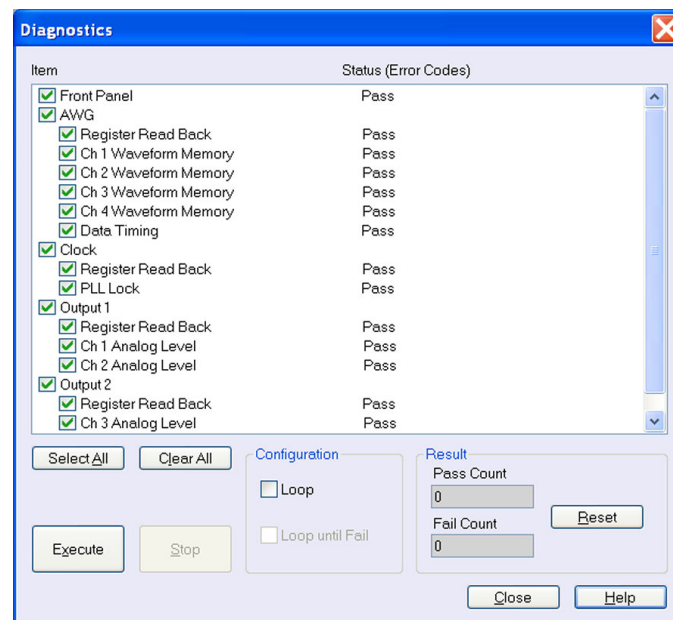

Figure 38: Diagnostics dialog box
2. From the menu bar, select **System** and then select **Diagnostics...**; the Diagnostics dialog box appears. (See Figure 38.)